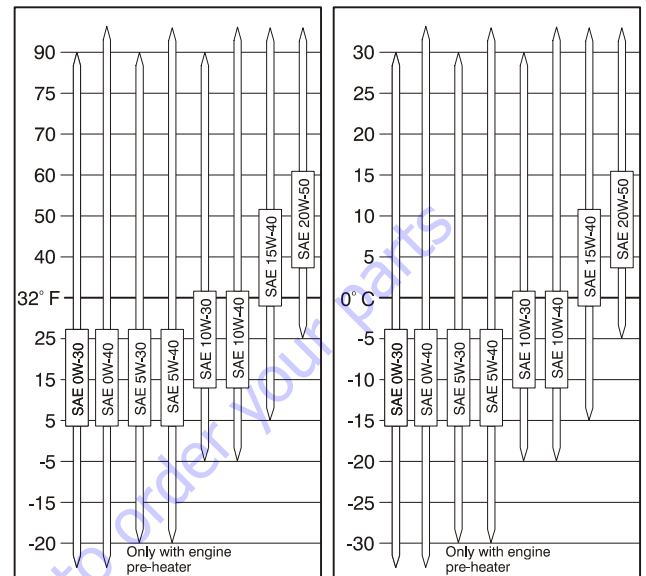

Figure 3-59. Engine Oil Viscosity
8. Pour in new engine oil. Refer to Section 1 for capacity and refer to Figure 3-59., Engine Oil Viscosity for the proper grade.